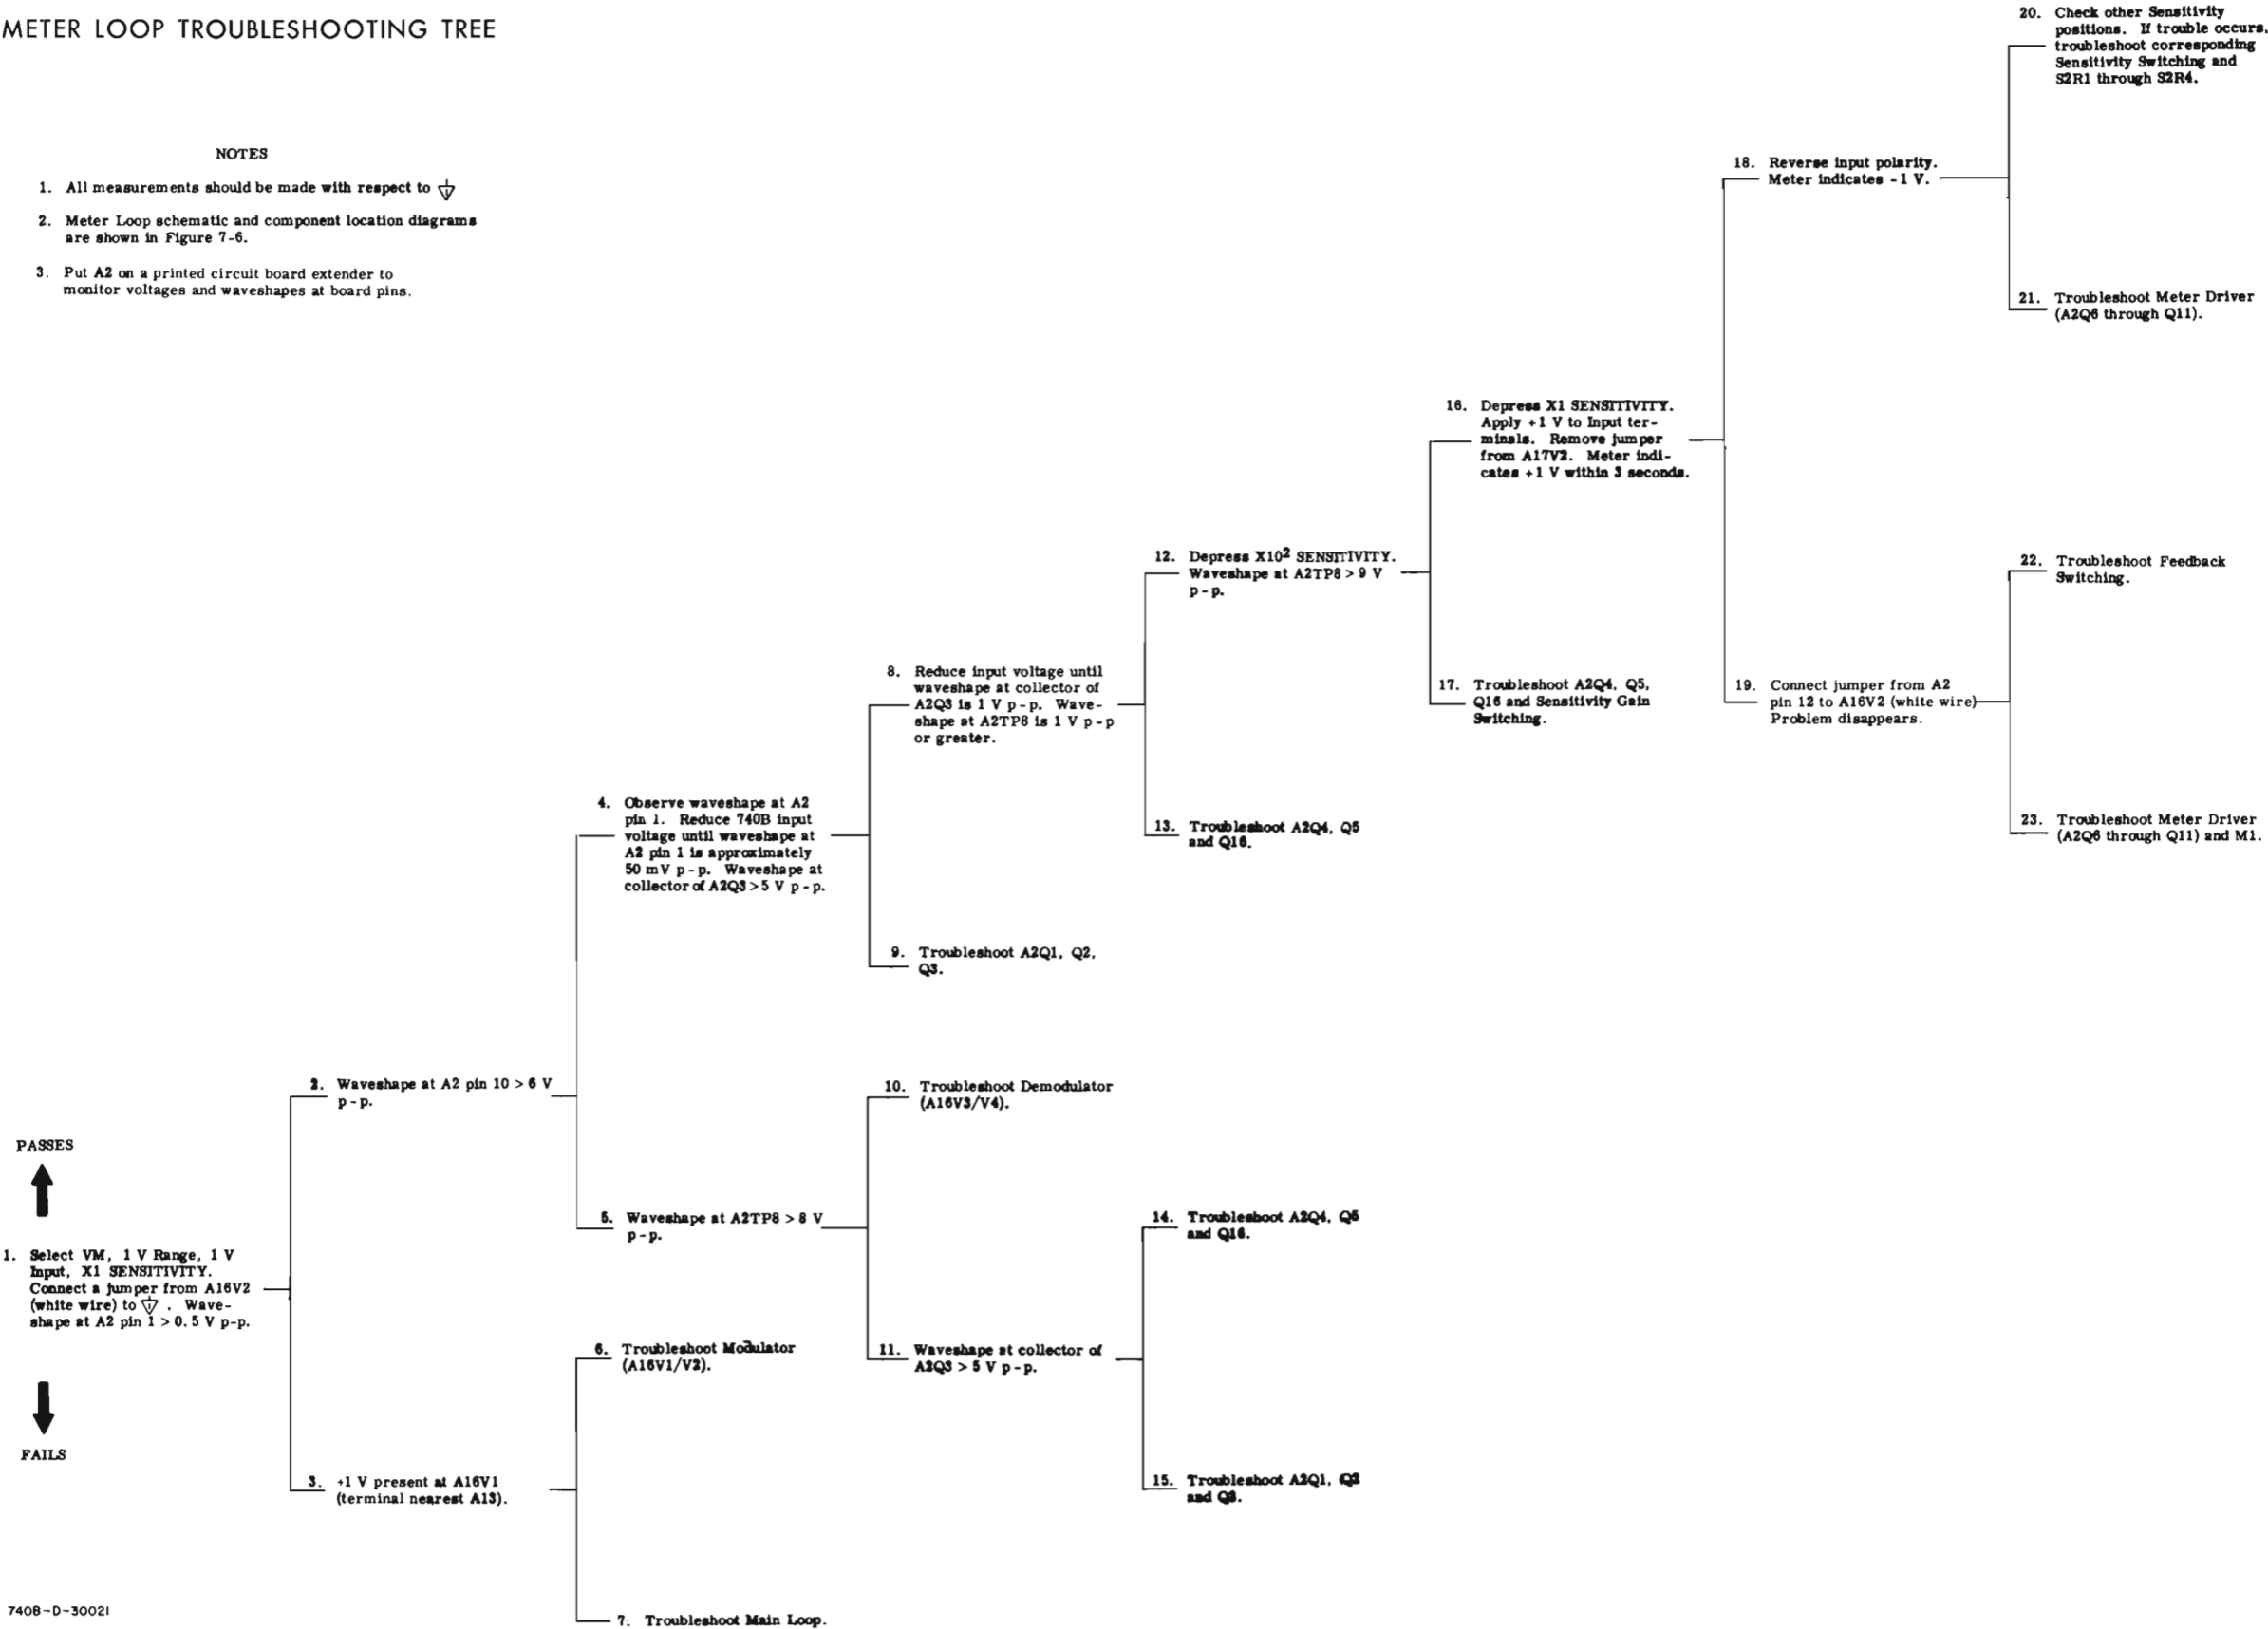

Figure 5-16. Meter Loop Troubleshooting Tree
| 1. A correct indication shows that the Main Loop and Meter Loop are probably working. | 13. Since the Main Loop is not causing noise or offset and the trouble occurs in both VM and Δ VM, the problem is most likely in the Meter Loop. Follow procedure in Meter Loop Troubleshooting Tree (Figure 5-16). |
| 24. Troubleshoot Input Protection Circuit (Figure 7-3). Possible trouble: Bad A9Q1, A9DS2 or A9V2. | 41. Check deck S1I(R) pins 4 and 5 for continuity in VM mode (Figure 7-3). If trouble cannot be found, follow procedure in Meter Loop Troubleshooting Tree (Figure 5-16). |
| 29. Follow procedure in Meter Loop Troubleshooting Tree (Figure 5-16). | 46. Perform Loop Gain Check (Paragraph 5-76). If instrument passes, proceed to step 49 in Main Loop Troubleshooting Tree (Figure 5-15). |
| 32. A correct output verifies proper operation of the Main Loop on the 1000 V Range. | 49. Follow procedure in Meter Loop Troubleshooting Tree (Figure 5-16). |
| 40. Follow procedure in Meter Loop Troubleshooting Tree (Figure 5-16). | |